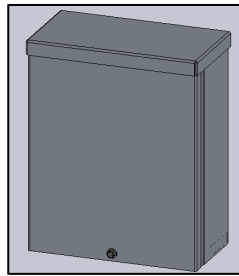

FIG. 5 - REMOTE DRIVER BOX
2. REMOTE DRIVER BOX WITH DRIVER INSTALLED (as shown in FIG. 5)